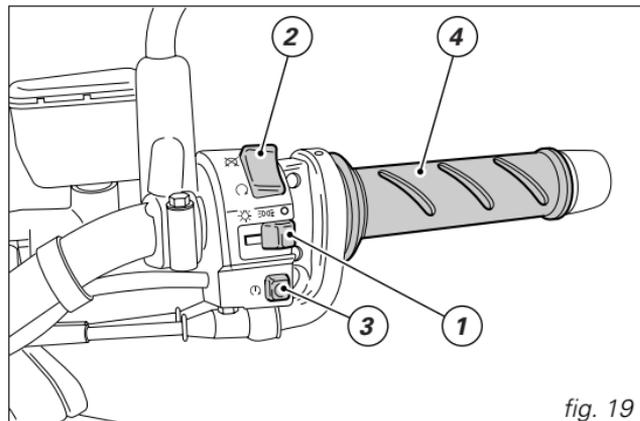

fig. 19
- After having used the bike, with headlight on, if the engine is stopped via the ENGINE KILL switch (2, fig. 19), after 60 seconds from engine stop, the headlight is turned off and will be turned on upon the following engine start-up.
While starting the engine, the system switches off the headlight and turns it back on again after engine has started, or anyway when the button (3, fig. 19) is released.
### **Right switch** (fig. 19)
### **Throttle twistgrip** (fig. 19)